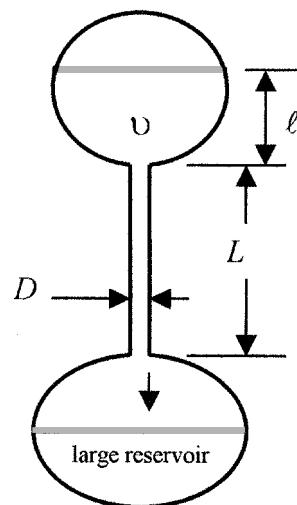

Fig. P6.17
**6.17** A *capillary viscometer* measures the time required for a specified volume  $v$  of liquid to flow through a small-bore glass tube, as in Fig. P6.17. This transit time is then correlated with fluid viscosity. For the system shown, (a) derive an approximate formula for the time required, assuming laminar flow with no entrance and exit losses. (b) If  $L = 12 \text{ cm}$ ,  $l = 2 \text{ cm}$ ,  $v = 8 \text{ cm}^3$ , and the fluid is water at 20°C, what capillary diameter  $D$  will result in a transit time  $t$  of 6 seconds?